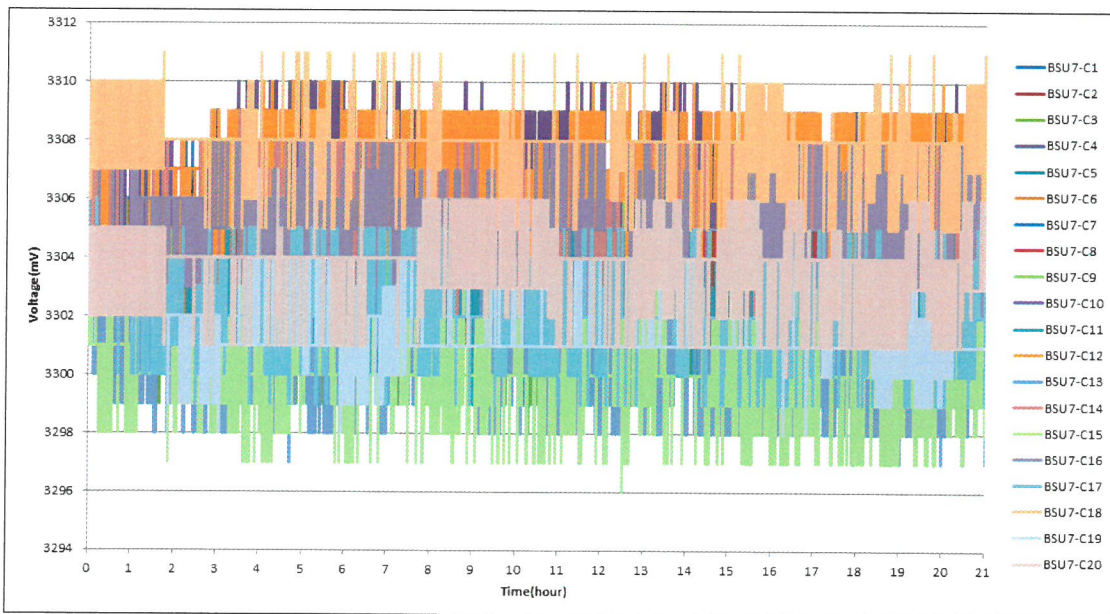

Fig.8 Show the cell voltage during Y₂ axis vibration test
- Fig.8 Show the cell voltage of Y_2 axis vibration test.